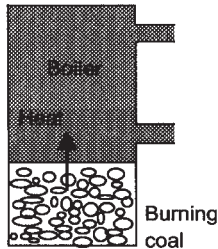

Figure 7.2 Burning a fuel
- 3 We can heat a boiler to produce hot water by burning a fuel (Figure 7.2), e.g. coal, and consider the chemical reactions that are involved in the burning process supplying the energy to heat the water.
and in Figure 7.2: